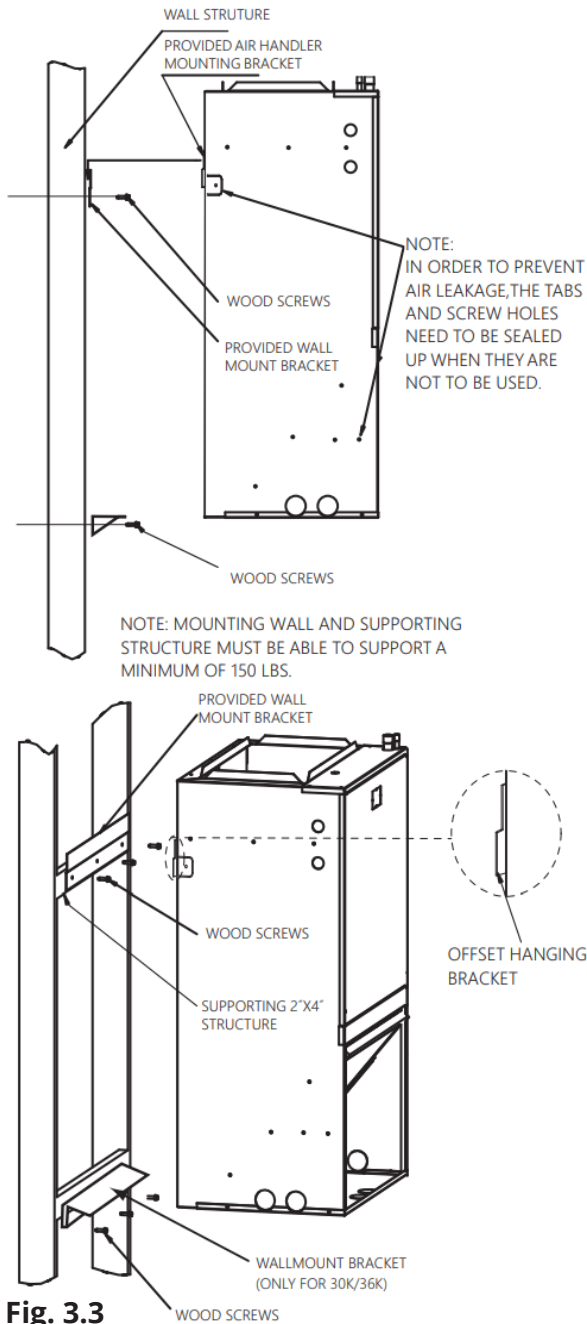

Fig. 3.3
The air handler comes standard with a wall mounting bracket and air handler mounting bracket. Reference Figure 3.3 for more details.
3. Lift the air handler above the wall mounting bracket and attach the unit to the installed bracket. Reference Figure 3.3.
4. Install the additional bottom plate for extra support for this type of mounting (see Figure 3.3).